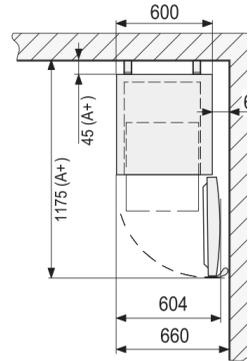

Fig. 3
- If the device is located in the corner of a room, maintain a minimum of 6 cm at the sides in order to open the door wide enough to enable access to drawers (**fig. 3**).